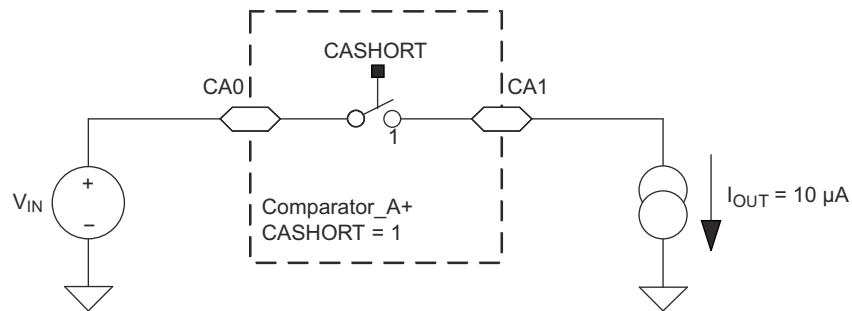
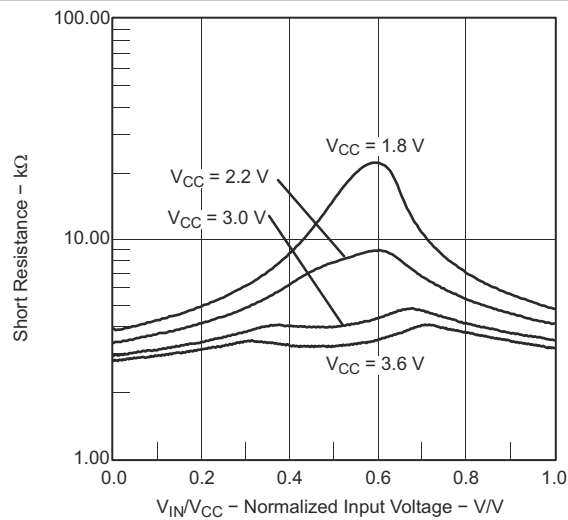

图 8-34. Comparator_A+ Short Resistance Test Condition
图 8-37. Short Resistance vs V_{IN}/V_{CC}
- (1) The leakage current for the Comparator_A+ terminals is identical to I_{lkg(Px,y)} specification.
- (2) Also see 图 8-34 and 图 8-37.
- (3) The input offset voltage can be cancelled by using the CAEX bit to invert the Comparator_A+ inputs on successive measurements. The two successive measurements are then summed together.
- (4) The response time is measured at P2.2/CAOUT/TA0/CA4 with an input voltage step and with Comparator_A+ already enabled (CAON = 1). If CAON is set at the same time, a settling time of up to 300 ns is added to the response time.